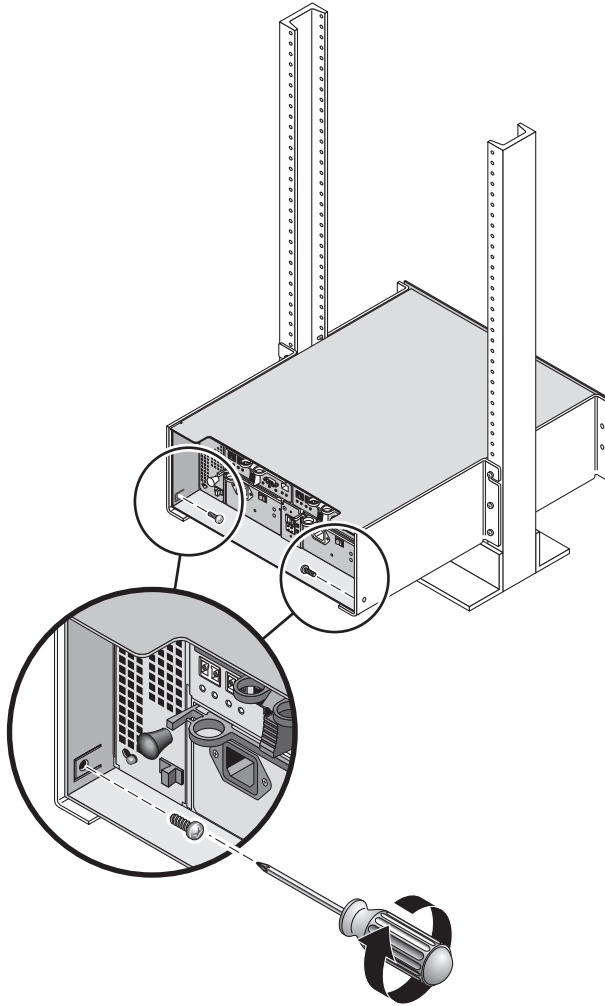

FIGURE 10 Securing the Array Module to the Back of the Telco 2-Post Rack
6. At the back of the array module, install and tighten two 8-32 screws (one per side) through the rear mounting points (FIGURE 10).